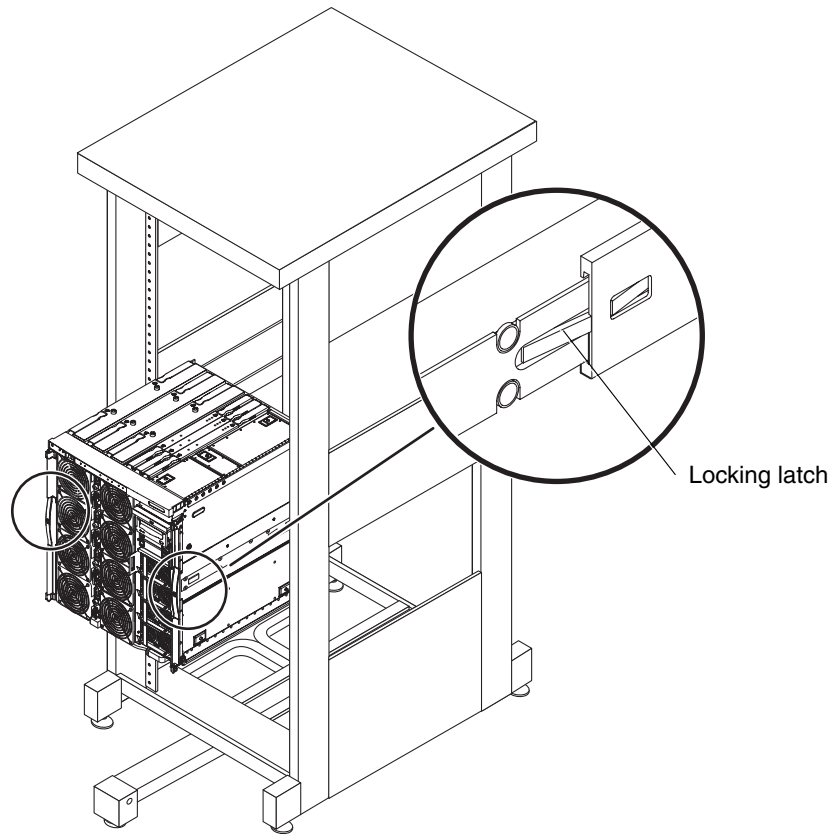

FIGURE 3-2 Sliding the System Out of the System Cabinet
3. From the front, carefully pull the system forward out of the system cabinet until the locking latches click (FIGURE 3-2).
3. From the front of the system, slide the system into the system cabinet (FIGURE 3-2).